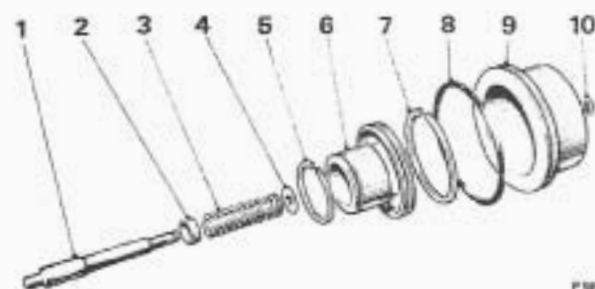

FIG. T211 REAR SERVO AND ACCUMULATOR—EXPLODED
1. Remove the rear accumulator piston from the rear servo piston (see Fig. T211).